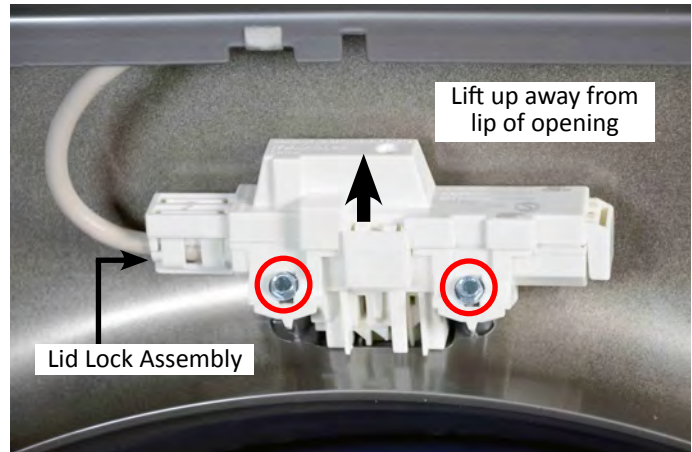

Figure 2
9. Remove the two (2) 1/4" hex-head screws (circled) securing the lid lock assembly to the lid (see Figure 2). Lift the lid lock assembly up from lip of opening.